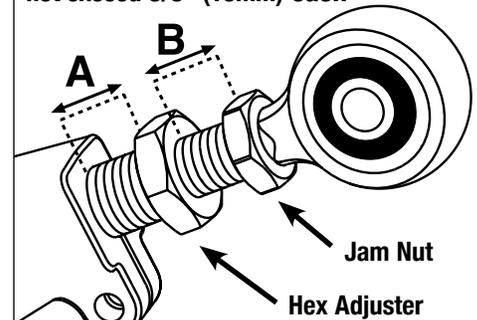

Figure 1
6. Adjust SPC camber arm length to approximately match OE camber arm. Thread small jam nut so it is closest to bushing end of arm. Ensure equal thread is showing on either side of hex adjuster, see **Figure 1**.
**WARNING: Threads visible on either side of hex adjuster should not exceed 5/8" (15.9mm), see Figure 1. Exceeding the range of adjustment may cause arm to fail and void the warranty.**